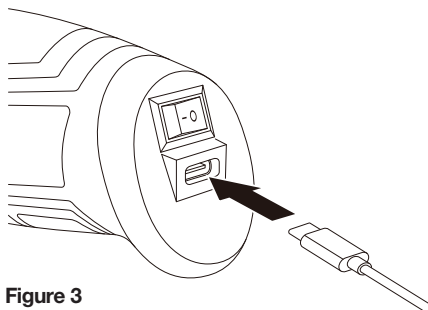

Figure 3
1. CHARGING THE PRODUCT (SEE FIG. 3)
- 3) Insert the smaller end of the USB charging cable into the charging socket (see Fig. 3).